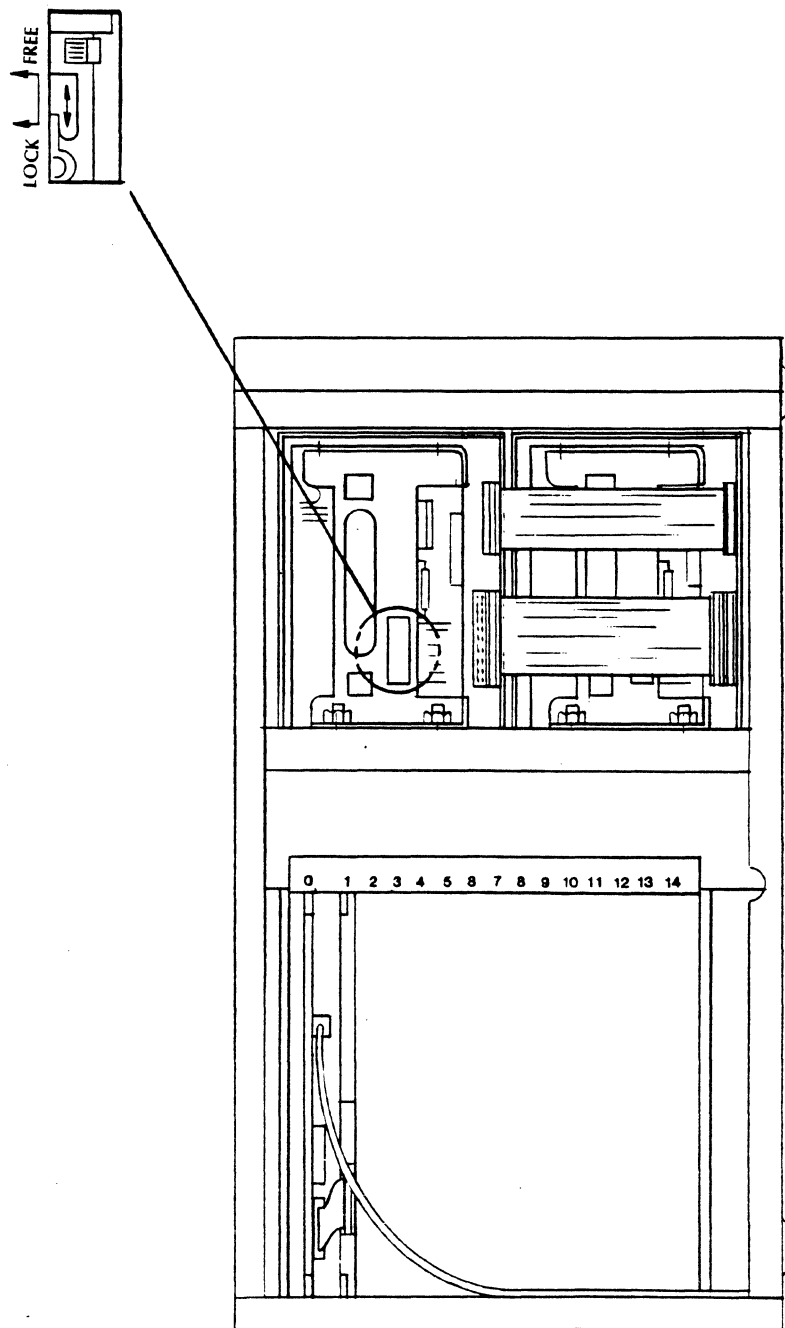

Figure 3-1. 142 Mb Fixed Disk Actuator Unlocking
2. To *unlock* the disk drive actuator locking arm, move the locking arm to the FREE position as shown in Figure 3-1.